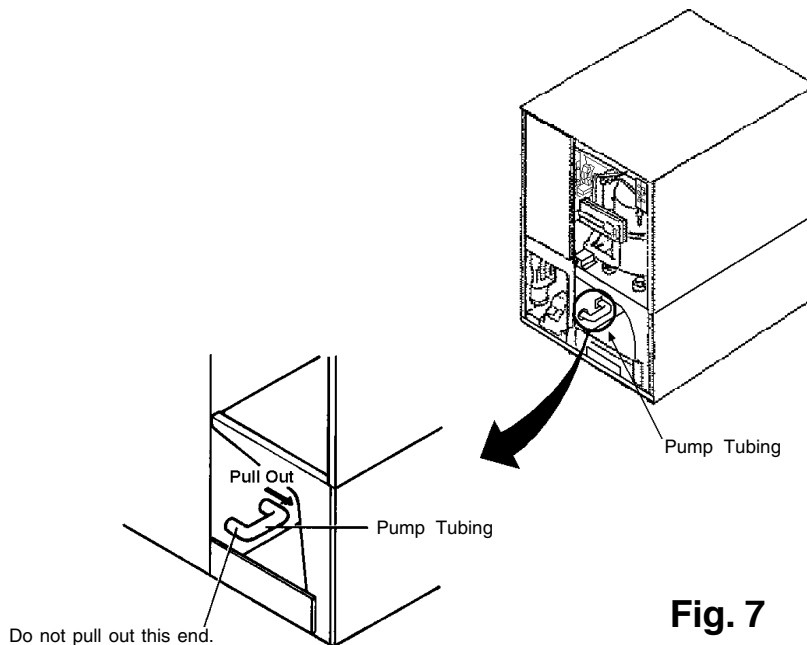

Fig. 7
- 8) Turn off the power supply. Remove the end of the Pump Tubing toward the back of the machine, and drain the Water Tank. See Fig. 7.